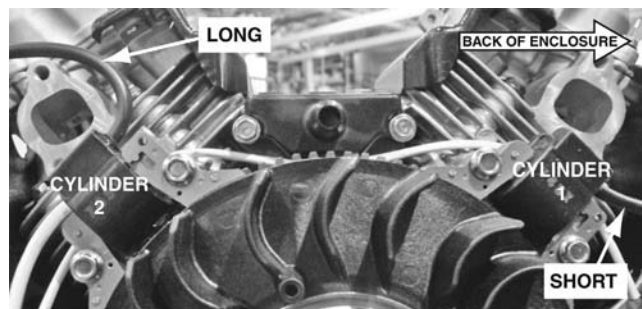

Figure 29.
4. When installing new magnetos there will be one with a short plug wire and one with a longer plug wire (Figure 29).